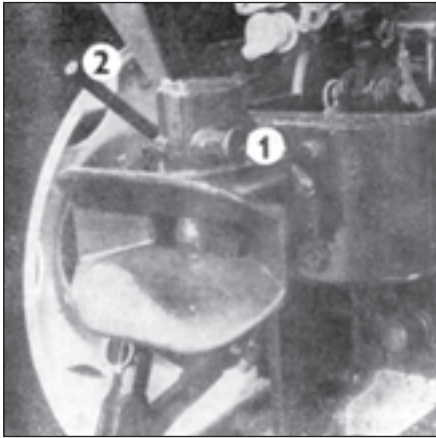

Fig. 68
Automatic tow mouth (Fig. 68)
- pull out the locking device (Fig. 68/1)
- using the lever (Fig. 68/2), lift the main pin until it remains in the upper position.